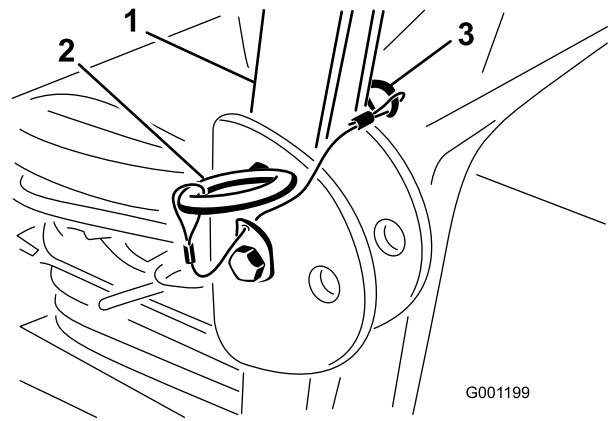

Figure 8
2. Raise the roll bar to the upright position and install the 2 pins and secure them with the hairpin cotter pins (Figure 8).
1. Remove the hairpin cotter pins and remove the 2 pins from the roll bar (Figure 8).